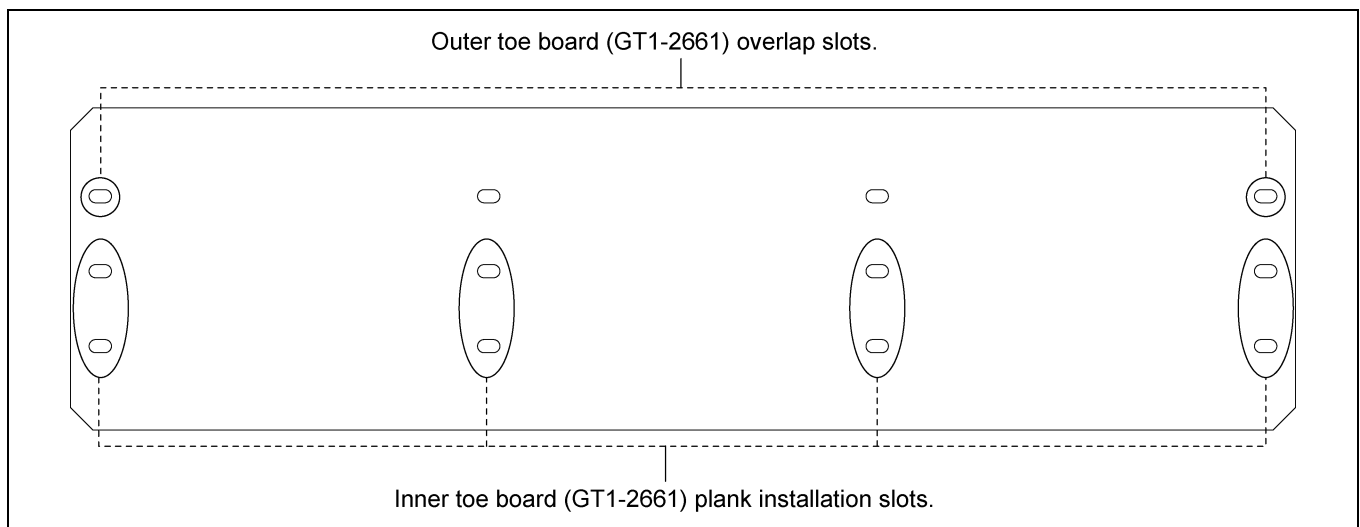

Figure 5K 23'-4" Inner Toe Board (GT1-2661)
3. Inner toe board is arranged with overlap slots on each side and plank installation slots. Install 23'-4" inner toe boards (GT1-2661) to corresponding overlap and plank installation slots as shown in Figure 5K